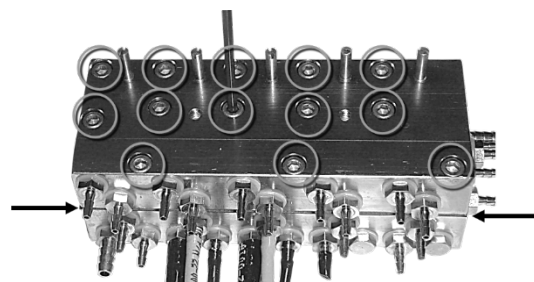

Fig. 3
- 7 Using a 7/64" Allen wrench, remove all thirteen (13) screws from a 5-position control block, then set aside. (Fig. 3)
- 8 Carefully separate the control block in the center, open slowly so as not to lose any pucks. (Fig. 3)